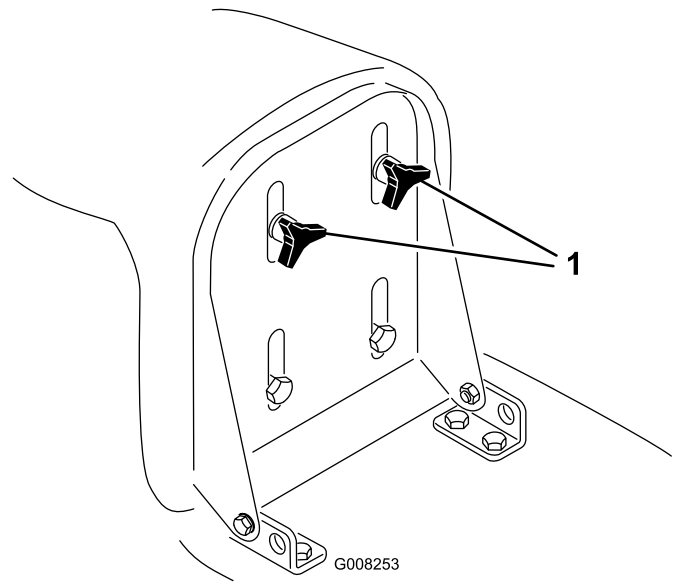

Figure 8
1. Raise the seat and loosen the adjustment knobs (Figure 8).